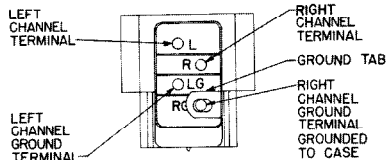

FIGURE 1
**CONNECTIONS (see Figure 1):** Right "hot" lead (usually red) to "R," right ground (usually green) to "RG." Left "hot" lead (usually white) to "L," left ground (usually blue) to "LG." If metal head is causing ground loop hum, remove the ground tab. The metallic cartridge shield is disconnected from the right channel ground by the removal of the ground tab.
2. Connect leads to cartridge (see Figure 1).